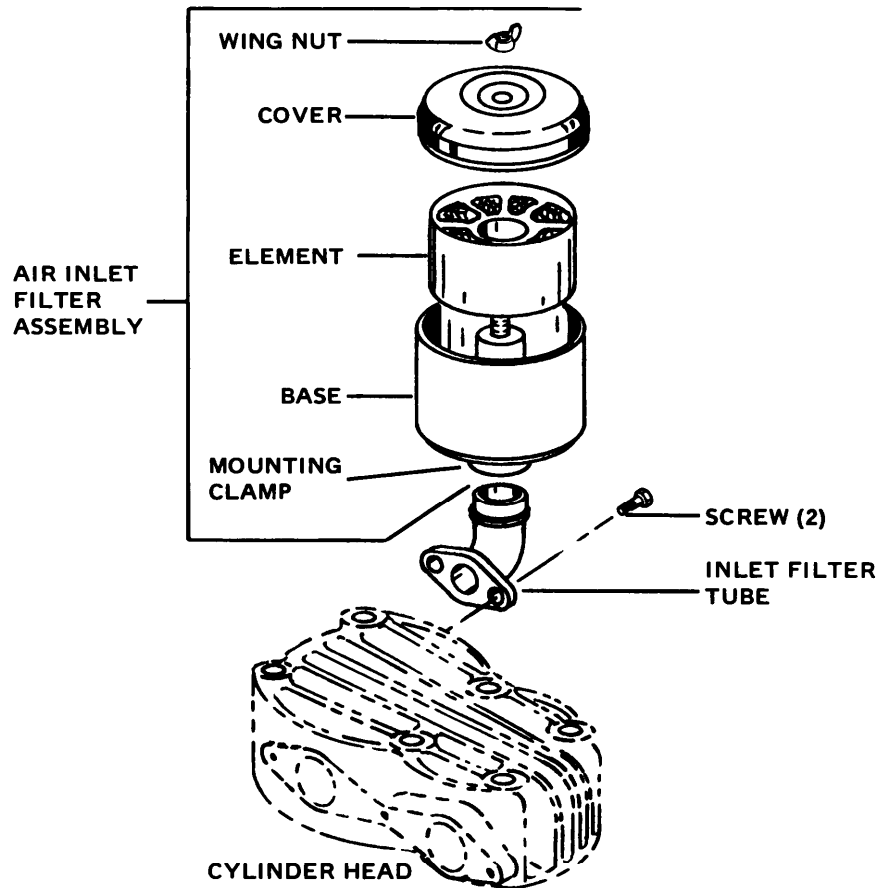

Figure 3-5. Air intake filter inspection, service, or replacement.
3-11. Air intake filter. Inspect, service, or replace the air intake filter as shown in figure 3-5.
Legend for fig 3-5:
Legend for fig 3-5: Continued
b. *Service.* Service the air compressor as shown in figure 3-4. Inspect air intake filter and service if necessary as shown in figure 3-5.